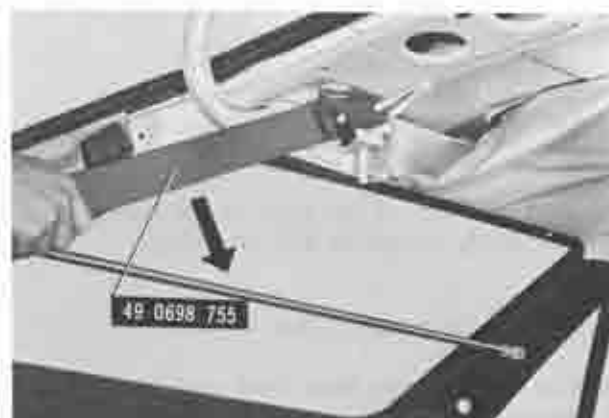

Fig. 14A-12 Installing torsion bar arm
7. Install the **torsion bar arm** (49 0698 755) to the left side balance spring as shown in Fig. 14A-12.